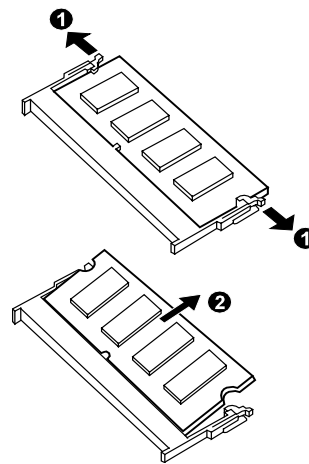

Figure 2-14 Remove the SO-DIMM
3. Pull the retaining clips outwards (❶) and remove two SO-DIMM (❷). (Figure 2-14)